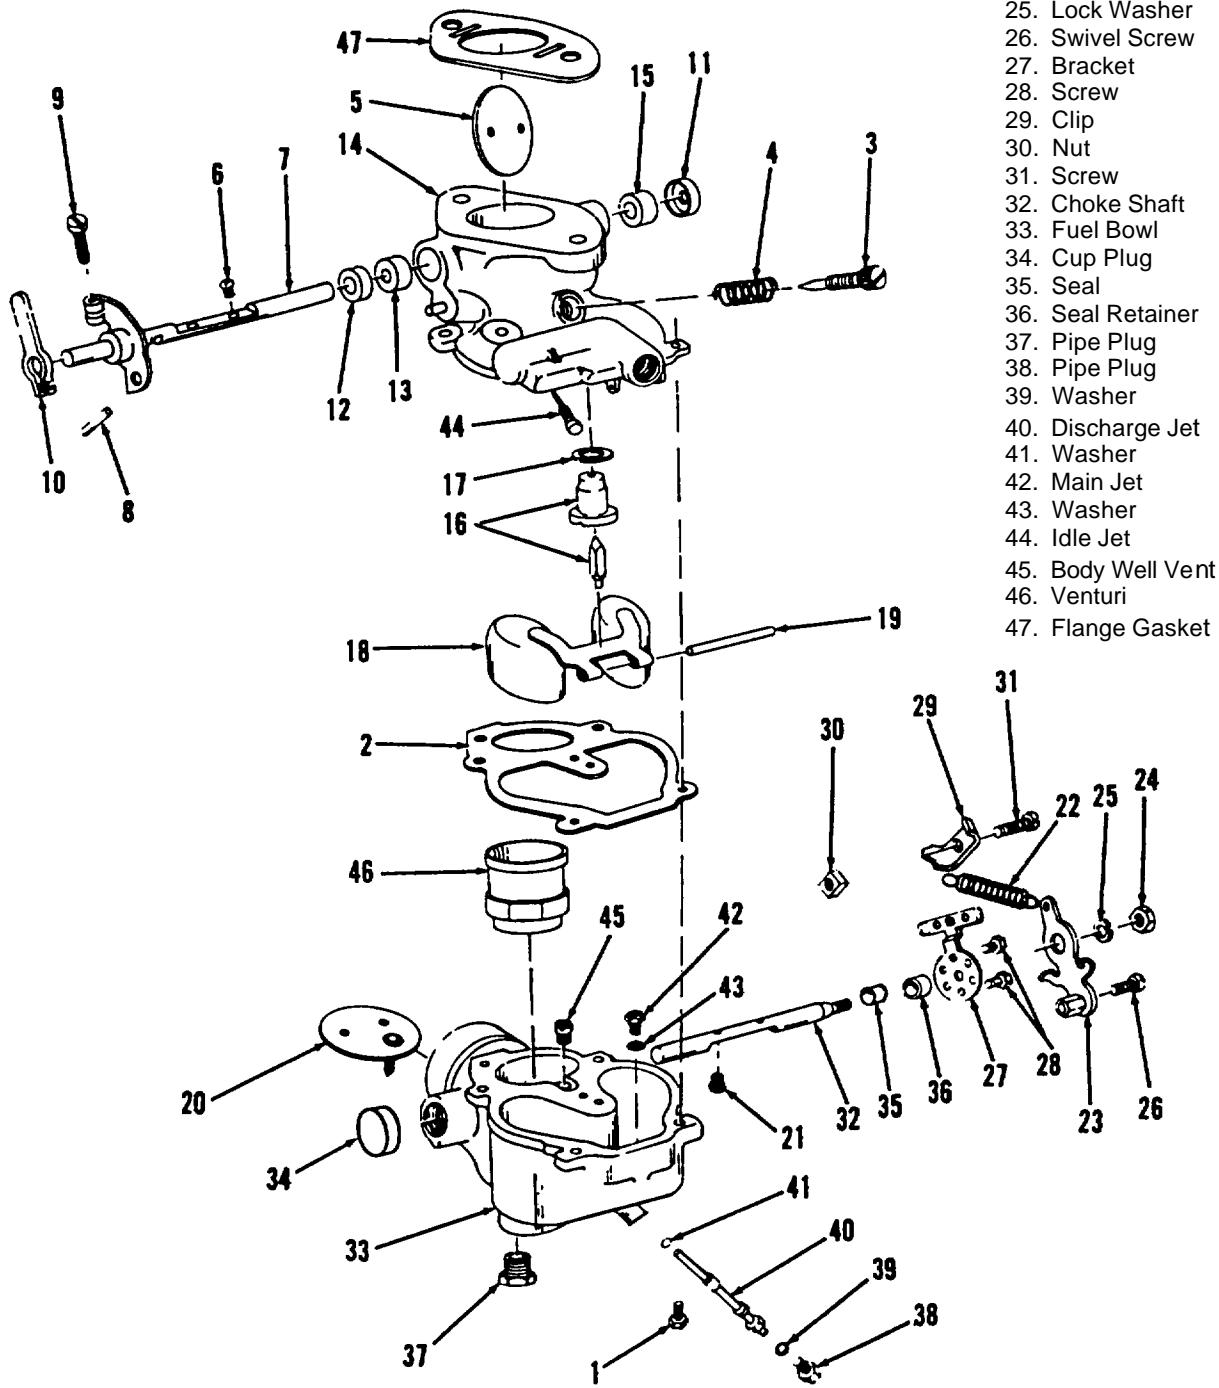

Figure 4-20. Carburetor Assembly, Exploded View
1. Remove four bowl to body screw and lockwasher assemblies (1, figure 4-20) which attach throttle body (14) to bowl (33).
2. Raise throttle body (14) slightly and separate bowl to body gasket from fuel bowl and then remove throttle body assembly being careful not to damage floats.
3. Invert throttle body assembly and remove float pin (19) from slotted end of hinge bracket, using screwdriver to force pin through slotted end of hinge bracket. Complete removal of pin from opposite side, then remove float assembly (18) and fuel valve needle (part of 16).
4. Remove bowl to body gasket (2) from machined surface of throttle body, and remove venturi (46).
5. Remove fuel valve seat (part of 16) and fiber washer (17) from throttle body.
6. Remove idle jet (44) from passage in machined surface of throttle body near fuel valve seat, using small screwdriver.
7. Remove idle adjusting needle (3) and friction spring (4) from side of throttle body.
8. Back out throttle stop screw (9) until threaded end is flush with throttle lever. Close throttle and mark across throttle body and throttle lever as a guide to correct re-assembly of parts.
9. File off riveted or peened end of throttle plate screws (6) flush with throttle shaft (7), being careful not to damage throttle plate (5) or throttle body bore. Remove throttle plate screws and throttle plate.
10. Remove throttle shaft and stop lever assembly from throttle body and drive out shaft hole plug (11), using a 6 inch length of 1/4 inch rod inserted through opposite shaft hole.
11. To remove shaft hole seal (13 and 15) and retainer (12), screw a 5/16 inch fine thread taper tap into seal retainer until firmly seated, then insert long punch or rod through opposite shaft hole and drive punch against end of tap until retainer is free of throttle body.
1. Remove main passage plug (38, figure 4-20) and fiber washer (39) from bottom of fuel bowl.
2. Remove drain plug (37) from outside bottom of fuel bowl.
3. Remove discharge jet (40) and fiber washer (41).
4. Remove main jet (42) and fiber washer (43) from bottom of fuel bowl.
5. Remove well vent (45) from center of large opening in machined surface of the fuel bowl.
6. Close choke and scribe across choke lever (23), choke bracket (27) and across air intake adjacent to lever as a guide to correct re-assembly.
7. Remove choke lever spring (22).
8. Remove choke plate screw and lockwasher assemblies (21) and choke plate (20).
10. Drive out shaft hole plug (34), using a 6 inch length of 1/4 inch rod inserted through opposite shaft hole.
11. To remove choke shaft seal (35) and retainer (36), screw a 5/16 inch fine thread tap into packing retainer until firmly seated, then insert long punch or rod through opposite shaft hole and drive punch against end of tap until retainer is free of air intake body. Remove retainer and packing from tap and repeat at opposite shaft hole.